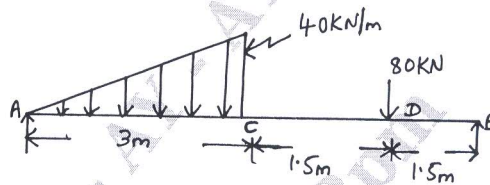

Fig.Q5(b)
- b. A simply supported beam AB of span 6m is loaded as shown in the Fig.Q5(b), draw the shear force diagram and bending moment diagram.